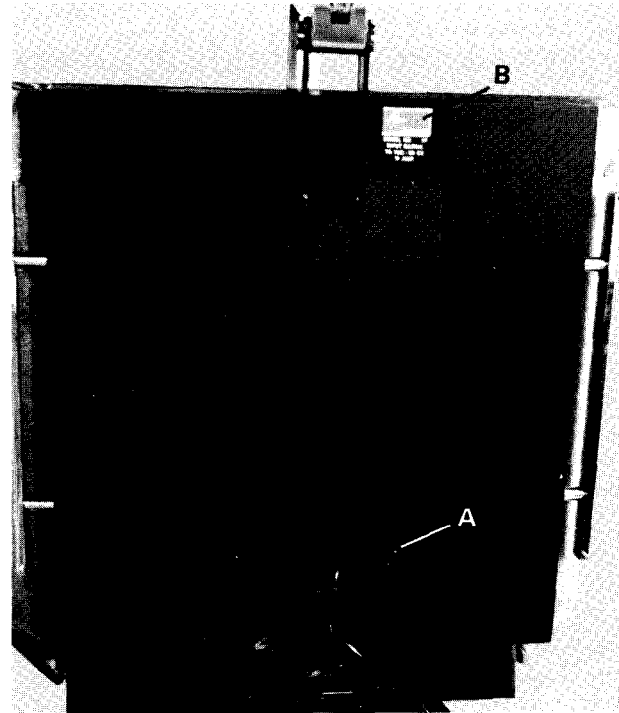

Fig. 3
If a part replacement should be required, the part must be ordered direct from the factory. When any part is ordered, a complete description or part number is required, along with Serial Number and date of installation of the table must be supplied. For details of the exchange plan, write the plant. (For location of serial number tag, see Item B, Fig. 3).
- 1) Remove the metal panel from the metal back frame by removing (4) small screws. Item A, Fig. 3.